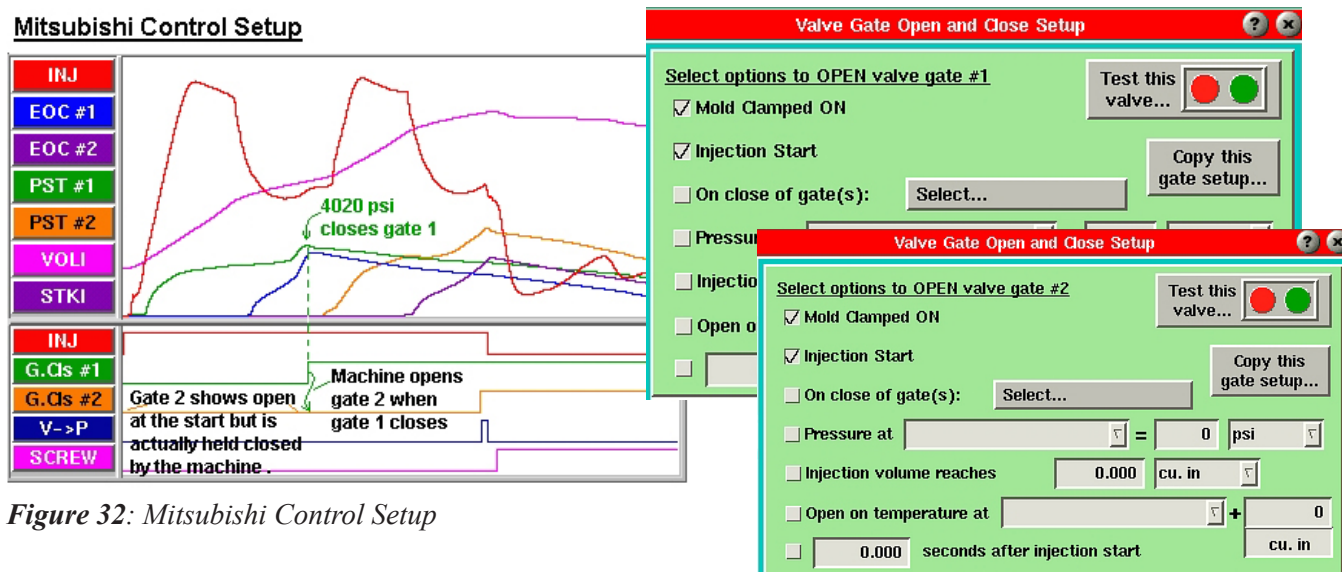

Figure 32: Mitsubishi Control Setup
- All gate open controls must be set to open on at least "Mold Clamped goes ON". In the alternate cavity scheme, the "Close" signal to the machine controller must be off at the start of the cycle. As the eDART® closes each valve in sequence, the machine opens the next one. So the cycle graph looks as the example in Figure 32.